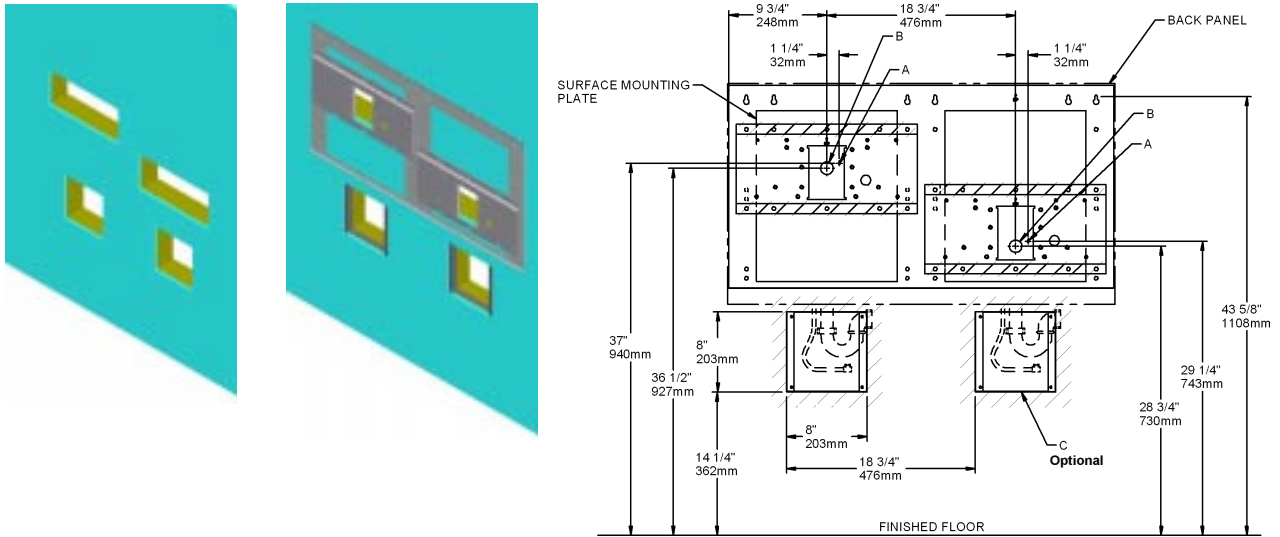
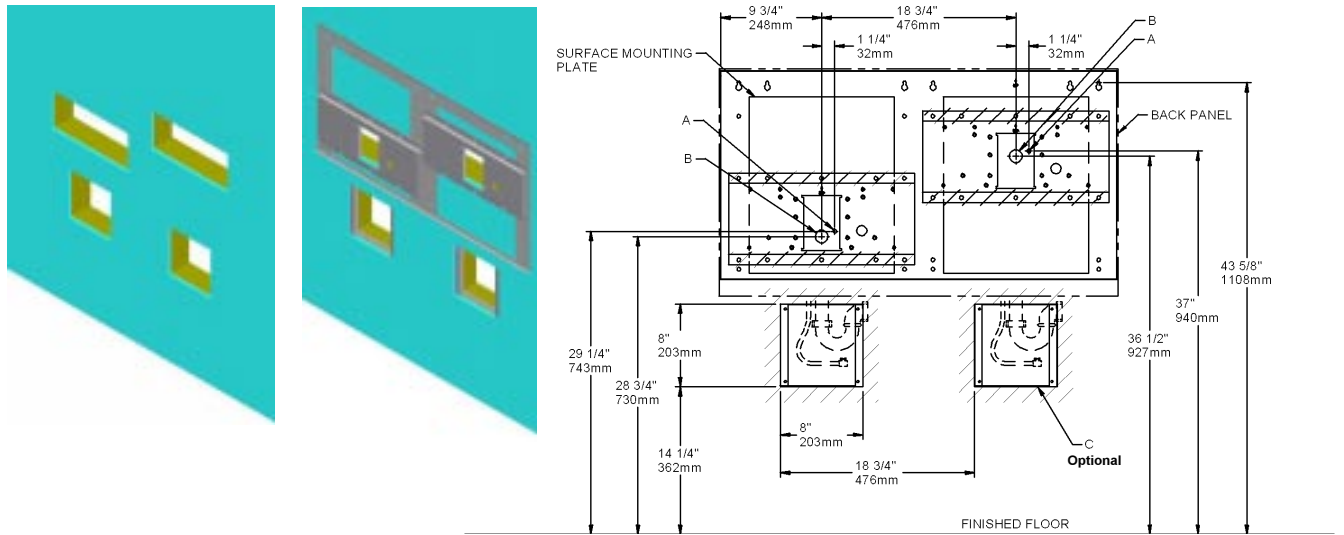

Figure 1 - Rough-in EDFPB117C
Figure 3 -Rough-in EDFPB117RAC
1. **Wall** should already be framed for the fountain using the positioning dimensions shown in Figure 1 or Figure 3. Shown dimensions pertain to installation location (framing must support up to 300 lbs. weight). These dimensions are required for compliance with ANSI Standard A117.0.
2. **Install** rough-in plumbing as shown in Figure 1 or Figure 3. Run supply water inlet line through the back panel. Install a service stop (not provided). Turn on supply water and flush thoroughly.